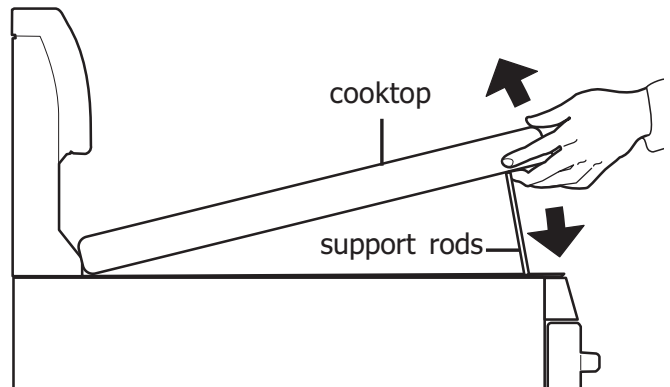

Figure 17: Lifting cooktop
1. Grasp the sides and lift from the front (See Figure 17). Lift-up rods will support the top in a raised position. Only lift the cook top far enough to allow the support rods to snap into place.